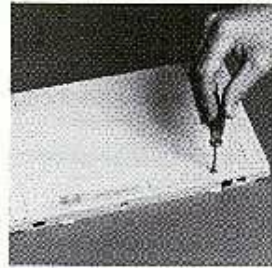

Figure 4-8
- g. Find the keyboard battery cover located on the rear of the keyboard. See Figure 4-8. Remove the cover screw and cover.